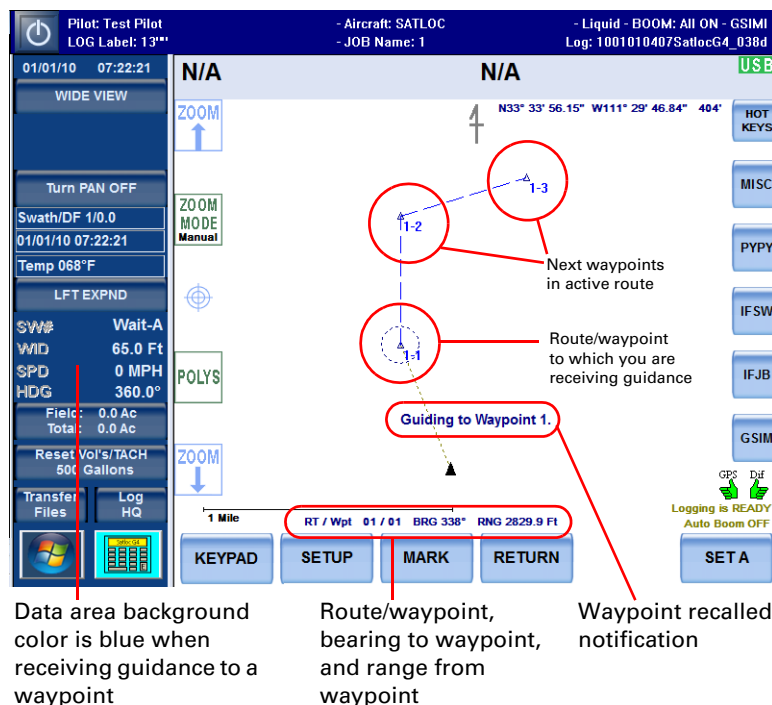

Figure 6-3: Recalled waypoint and guidance indicators
To recall a waypoint that is part of a route, you must recall the route first. When you recall a waypoint (having recalled its route) the map shows the following (refer to Figure 6-3 for an example):
- Other waypoints in the route are noted (1-2 and 1-3 in Figure 6-3)
In Figure 6-3 (previous page) the dotted circle around waypoint 1 is the radius value.
- Once you are within the radius value of that point "Advancing to next waypoint in route" appears for several seconds then disappears (similar to the "Guiding to Waypoint n." message that appears in Figure 6-3), the dotted radius circle appears around the next waypoint (1-2 at right), and you receive guidance (gray dotted line) to that point